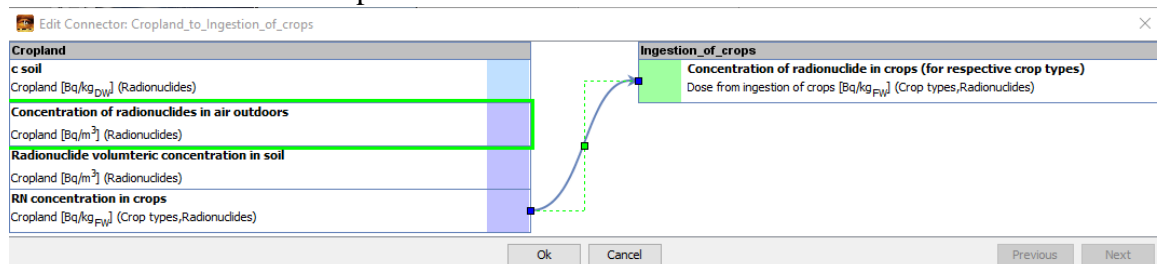

FIG 11. Using ‘*Edit Connector*’ window to set up data exchanges between modules.
1. Double click on the “connector” block between ‘Cropland’ and ‘Dose from ingestion of crops’ modules. The ‘*Edit Connector*’ window will be opened allowing to set up data exchanges between these modules (FIG 11). The left column of window lists the output parameters of the ‘Cropland’ module, while the right column lists the input parameters of the ‘Dose from ingestion of crops’ module. You have to match properly ‘output – input’ parameters between these two columns. The specific parameter can be selected by right-clicking the particular table cell, and selecting the need parameter from the drop-down list that appears.